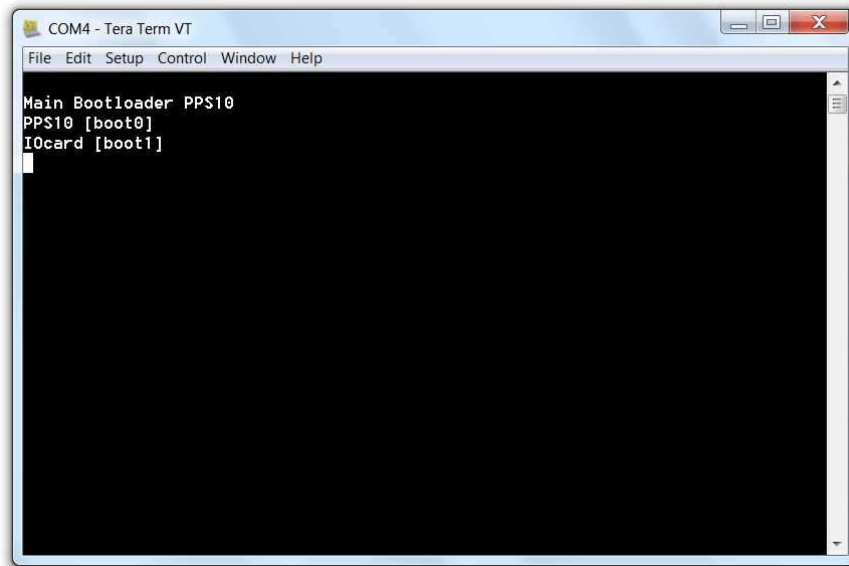

Fig. 1.0.2
4. Activate the connection. To do this, press ESC button on the power supply and hold during the powering on of the unit on the main switch. The LCD display of the unit stays black and one green LED of the POWER bar stays on. At the same time the following message should appear on the terminal – Fig 1.0.2